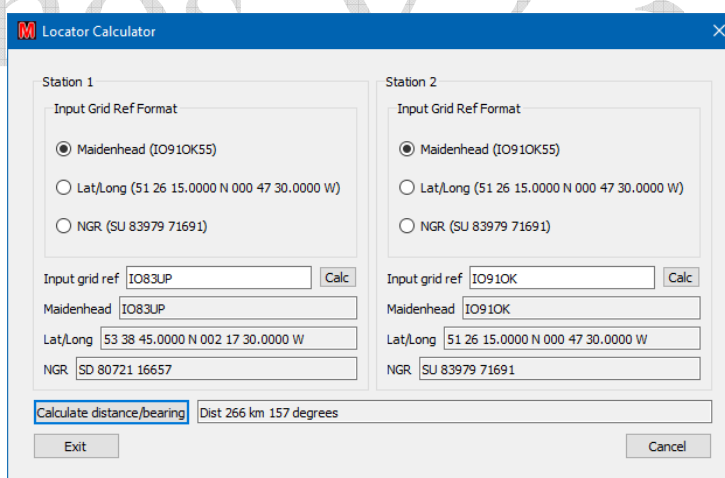

Figure 37 – Locator calculator
Depending on the option selected, you can enter a Locator, a Latitude/Longitude, or a (UK) National Grid Reference⁴¹ into the “**Input grid ref**” box (see Figure 37) and convert between the various displays. Selecting “**Calc**” (or hitting “**Return**”) will then calculate and display the other two formats. If both Station details are given it also calculates the distance and bearing from Station 1 to Station 2.